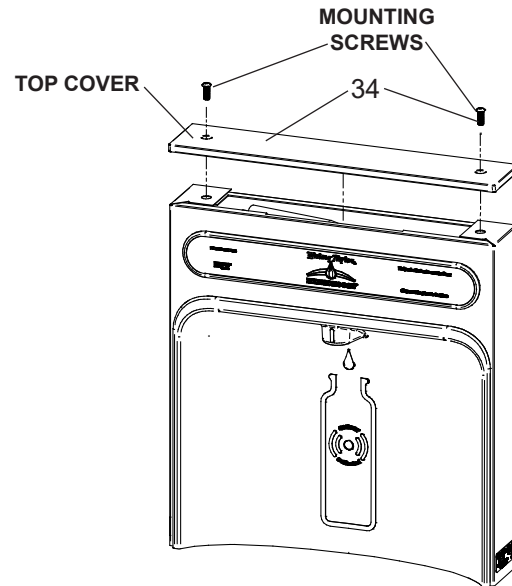
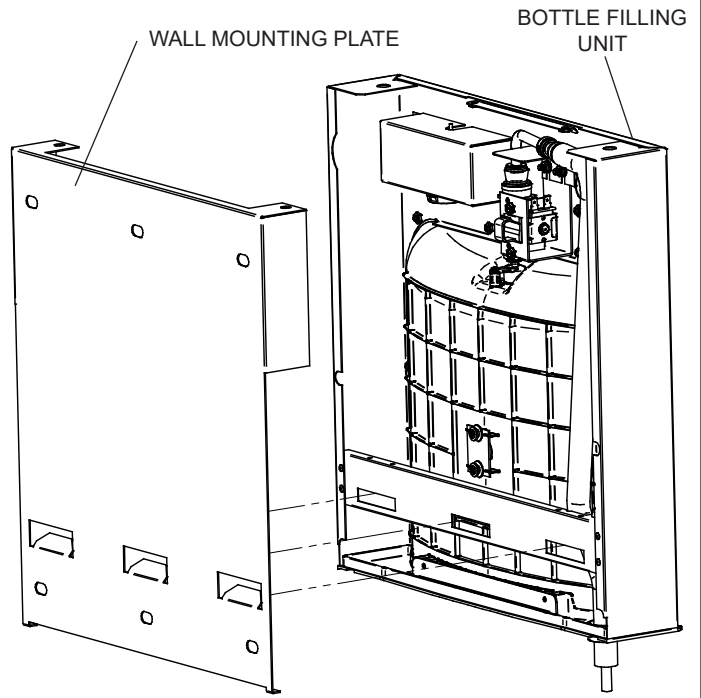

Fig. 7
Fig. 11
- 1) Remove two (2) mounting screws with 5/32" Allen wrench holding top cover to Bottle Filler (See Fig. 7). Remove top cover. Note do not discard mounting screws, they will be needed to reinstall top cover.
- 8) With the power cord and waterline through hole on top of water cooler place Bottle Filler on the three (3) angled tabs protruding from the wall mounting plate installed on wall. Make sure round boss in gasket fits in hole of basin. (See Fig. 11).
- 9) Once Bottle Filler is installed on wall plate tabs, water line and power cord are installed properly, push top of Bottle Filler toward wall and line up top cover two (2) holes.
- 10) Reinstall Top Cover on Bottle Filler (See Fig. 7) with two mounting screws from step 1 above. Caution, do not over tighten screws.